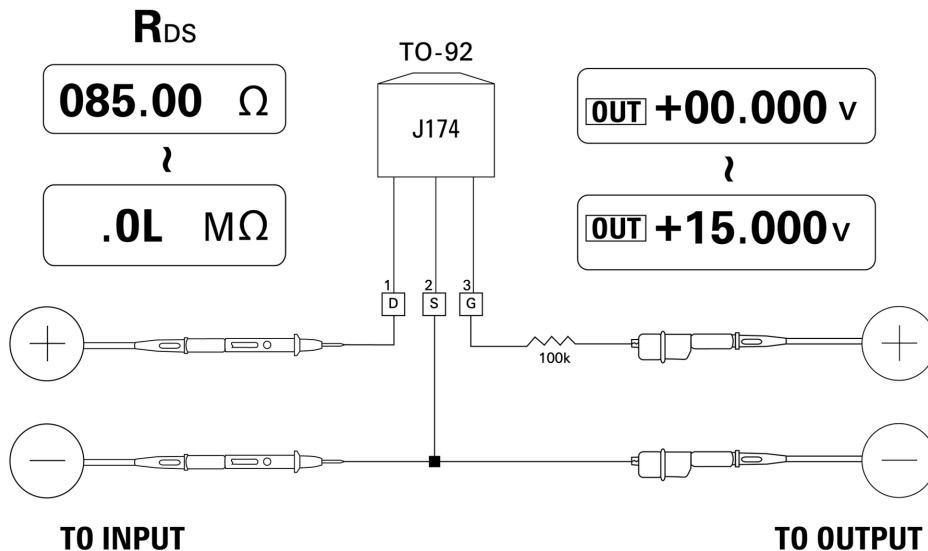

Figure 5-12 P- Channel JFET
- 4 Gradually decrease the voltage output from +00.000 V to +15.000 V. The R_{DS} value will increase correspondingly (Figure 5-12 on page 107).